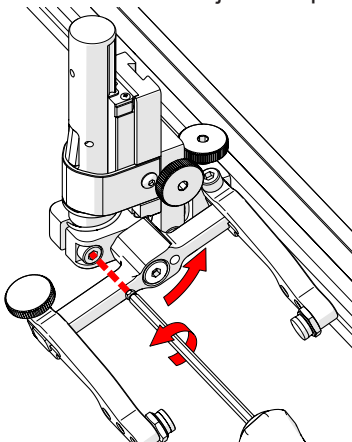

Fig. 181 - Loosen 3 mm screw
2. Using the supplied 3 mm hex driver loosen the transverse adjustment screw (*Fig. 181*) and rotate the yoke about the vertical shaft achieving the desired angle.